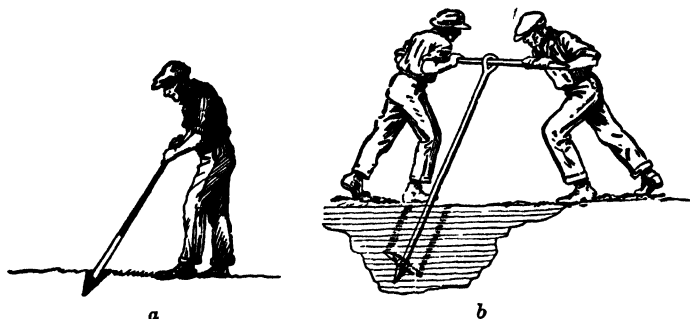

FIG. 12-20. Steps in installation of screw-type anchor. (a) Digging small hole with bar. (b) Screwing in anchor. (Courtesy Hubbard & Co.)
**Digging in the Anchor.** The manner of digging in the guy anchor depends on the type of anchor. See Fig. 12-19 for various types of guy anchors in general use. The screw-type anchor is screwed into the earth in the manner shown in Fig. 12-20.